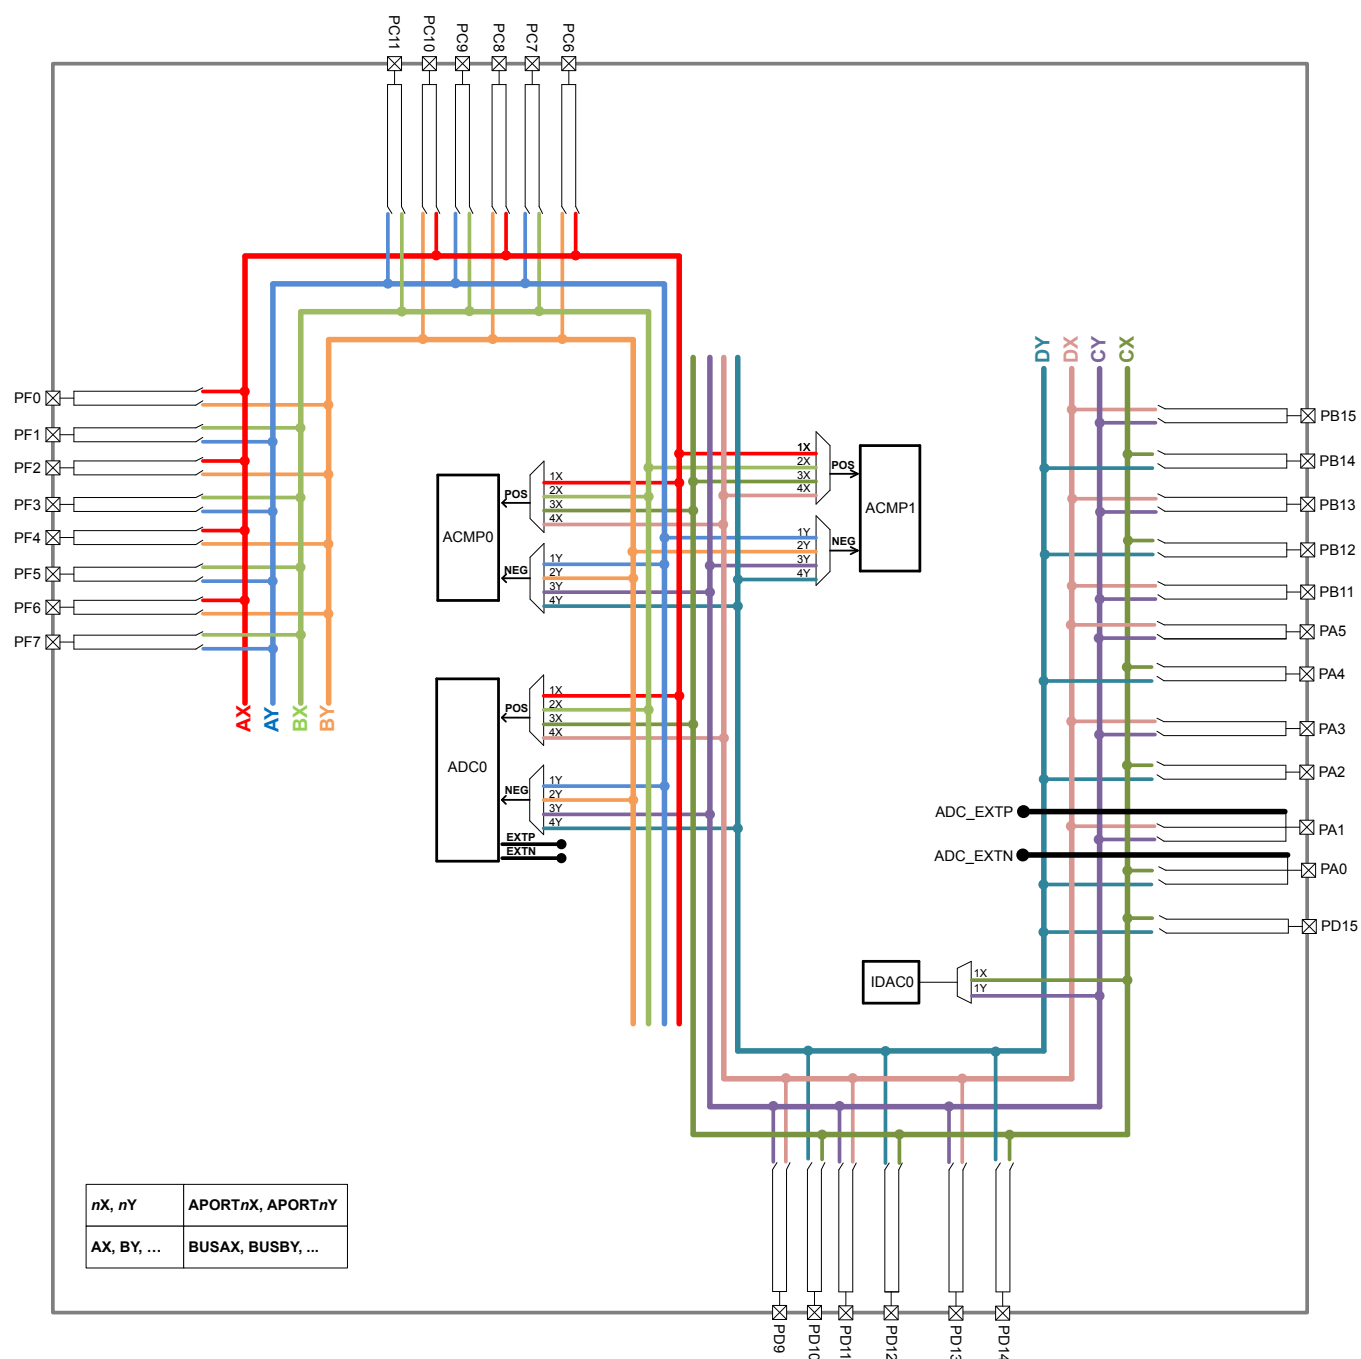

Figure 29.3. Detailed APORT Structure
Figure 29.3 Detailed APORT Structure on page 950 shows all the possible routes between different peripherals and different pins via APORT BUS for the largest package of the EFR32xG1 device family. Note that, in the figure, the BUSxX and BUSxY are annotated as xX and xY, where x=A,B,C,D and the APORTnX and APORTnY are annotated as nX and nY, where n=1,2,3,4.
- Figure 29.3: Added Detailed APORT structure diagram.